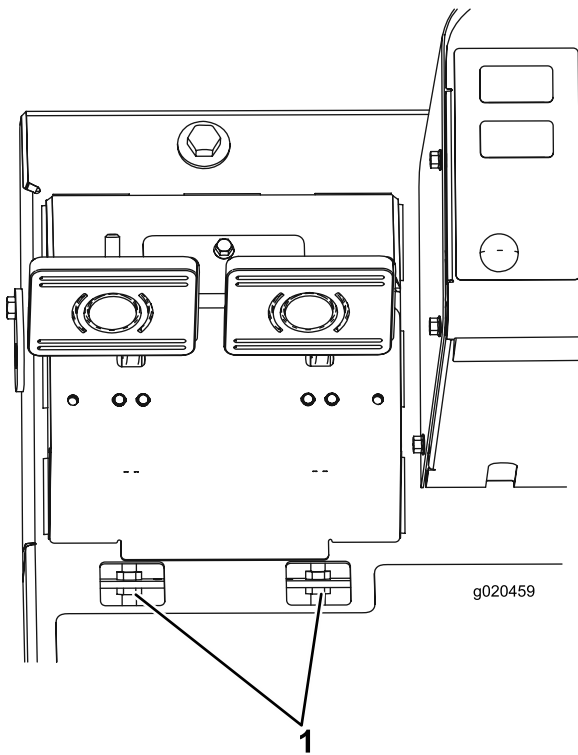

Figure 68
- B. Loosen the front nut on the threaded end of the brake cable (Figure 68).